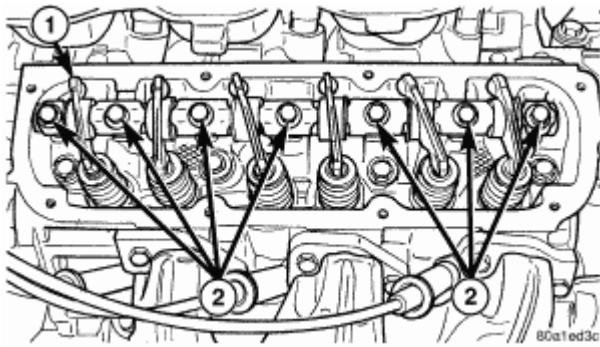

Fig. 110: Rocker Arms & Shaft
2. Loosen the rocker shaft bolts, rotating one turn each, until all valve spring pressure is relieved. See **Fig. 110**.
3. Remove the rocker arms and shaft assembly. See **Fig. 110**.